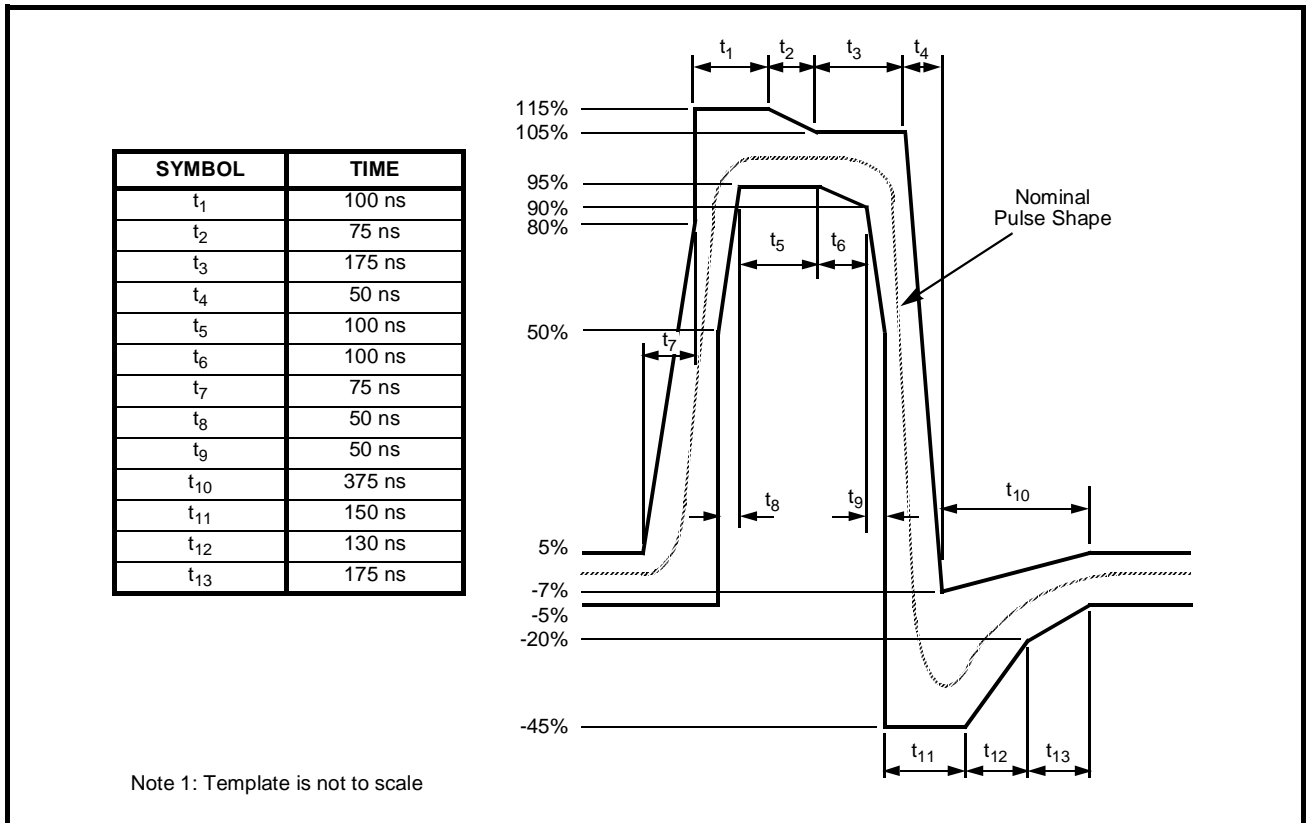
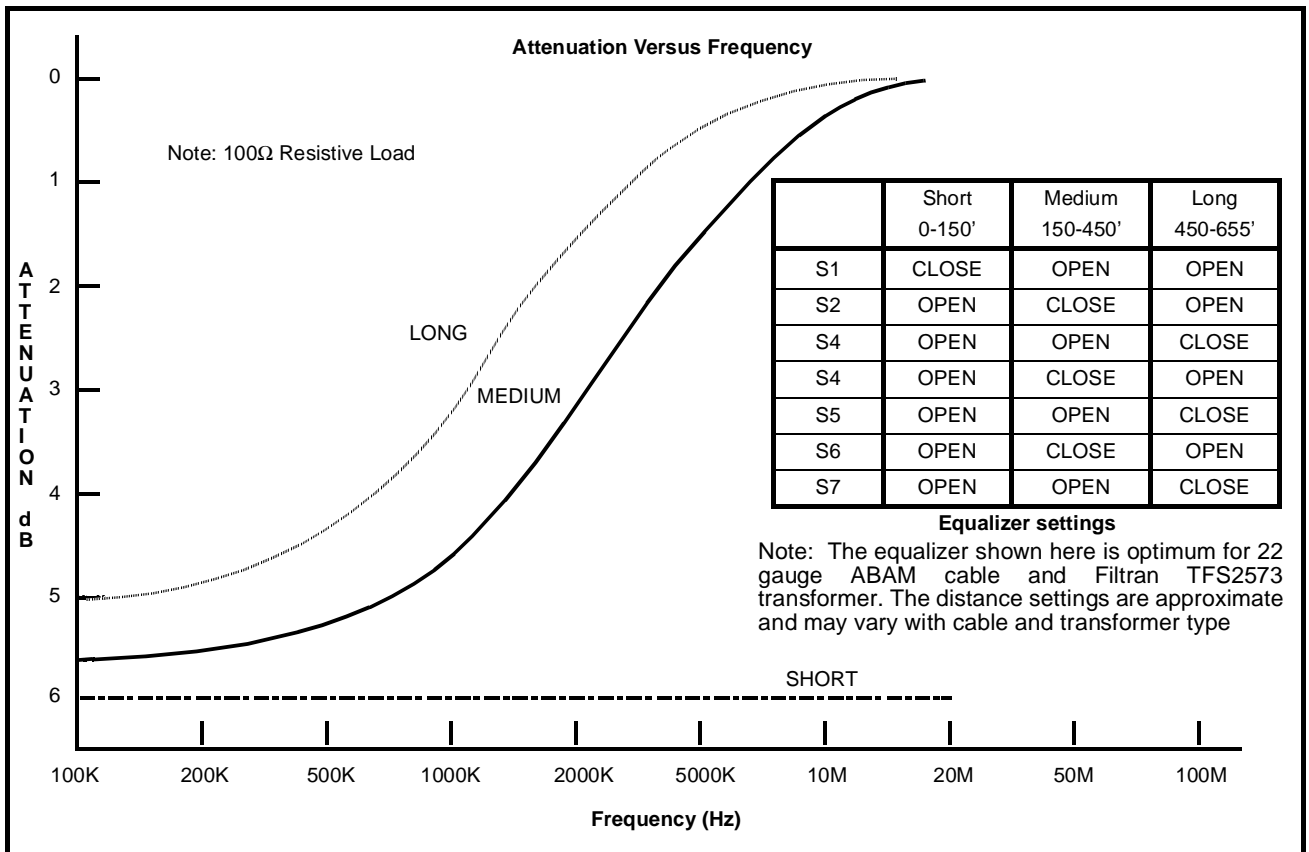

Figure 3 - DSX-1 Line Pulse Template (Reference: ANSI T1.102-1987)
Figure 4 - Typical Frequency Response of the Equalizers
The MH89761 is designed to accept output from the secondary of the T1 transmit transformer and condition it for transmission over twisted pair. The seven switches (S1 to S7) permit configuration of the equalizer for different line lengths. The pulse amplitude at the secondary of TR1 is approximately 6V. Passing this signal through the equalizer with zero line length setting on the switches will result in attenuation of the pulse by 6dB. This will ensure that the pulse fits in the template shown in Figure 3 and meets DSX-1^① requirements. By switching in different C and L components, the frequency and phase response of the equalizer can be altered as shown in Figures 4 and 5. Note that the circuit attenuates lower frequencies more than higher frequencies. Consequently, when a pulse is passed through the equalizer, lower frequency components in the signal are attenuated more than higher frequency components. The intention is to compensate for the attenuation properties of twisted pair cable, which tends to attenuate higher frequencies more than lower frequencies. The net result is that a pre-equalized pulse will meet DSX pulse requirements after traversing a specific length of cable.
The cable length indicated along with the equalizer switch settings in Figure 4 are specific to 22 awg ABAM cable interfaced to an MH89760B equipped with a Filtran[®] TFS2573 transformer. Different equalizer settings may be more appropriate for other cable and transformer types. Figure 6 shows the generic switch settings for different levels of equalization.